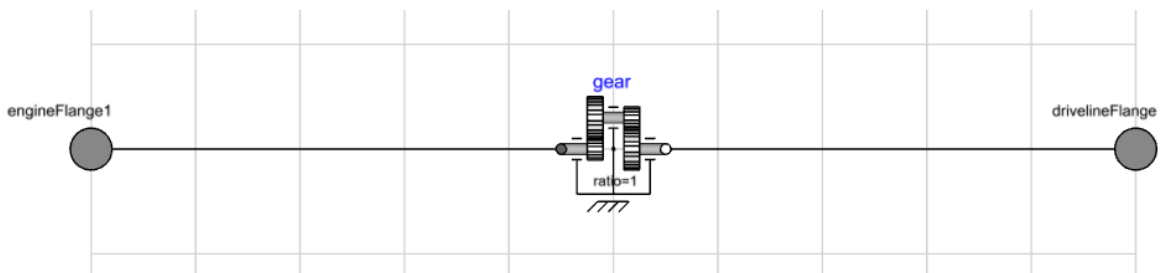

Figure 6 FixedTransmission model
- a. **FixedTransmission** with a *Modelica.Mechanics.Rotational.Components.IdealGear* and propagated parameter $ratio=1.0$ as shown in Figure 6.